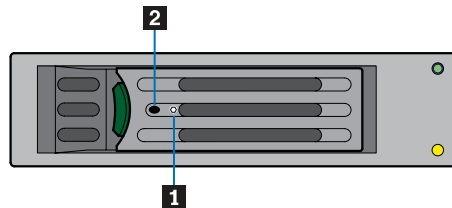

Figure 20. Deactivating an anti-tamper lock
1. Carefully insert the TORX screwdriver provided into the cutout in the handle (see **1** in Figure 20).
2. Rotate the screwdriver in an anti-clockwise direction until the lock symbol is no longer visible in the opening beside the key (see **2** in Figure 20).